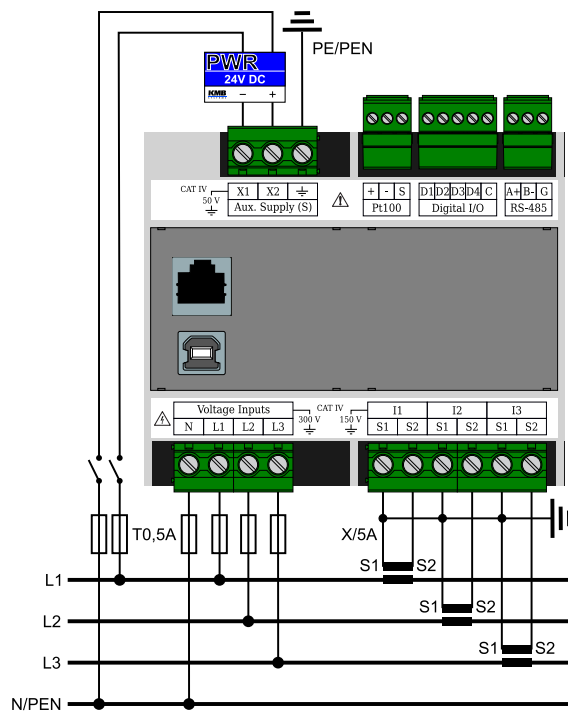
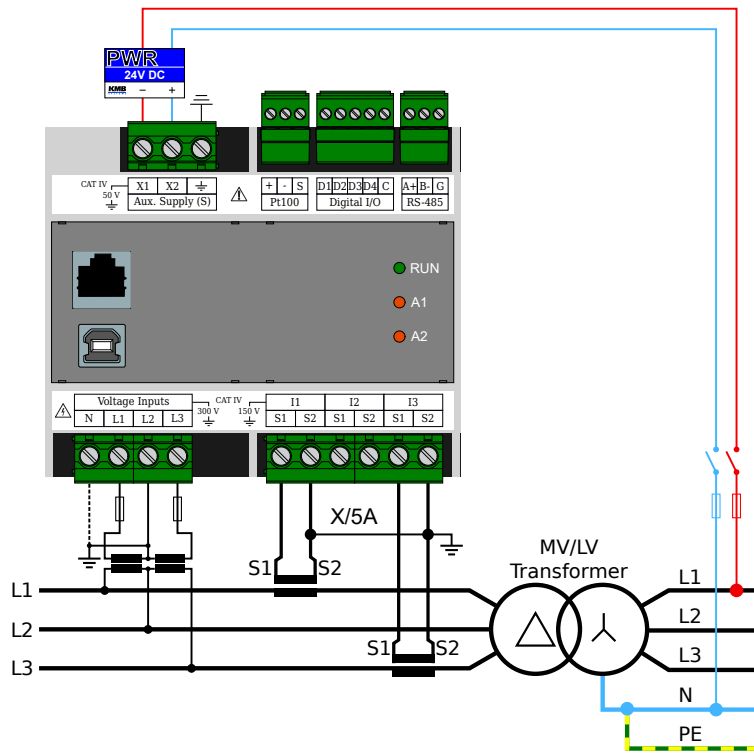

Figure 6: An example of a typical connection of ARTIQ 233 in a LV network - wiring a measured voltage to a star in a four-wire network.
Figure 7: An example of a typical instrumentation of ARTIQ 233 when measured in a MV, HV network on the secondary side of an instrument transformer.
Option „X/5A“ The secondary CT winding of nominal 5 A or 1 A must be fed to the terminals S1 and S2 of the current inputs I1, I2 and I3. Figure 6 illustrates the correct connection with the CTs in the LV network. In the figure 7, there is an example of a HV network using an Aron circuit where I2 inputs remain unconnected. In MV/HV networks, it is always necessary to ground the S1 (or S2) terminals of all CTs at one point.
- For direct measurement (see eg Fig. 6 set the multiplier value to 1 — default value.